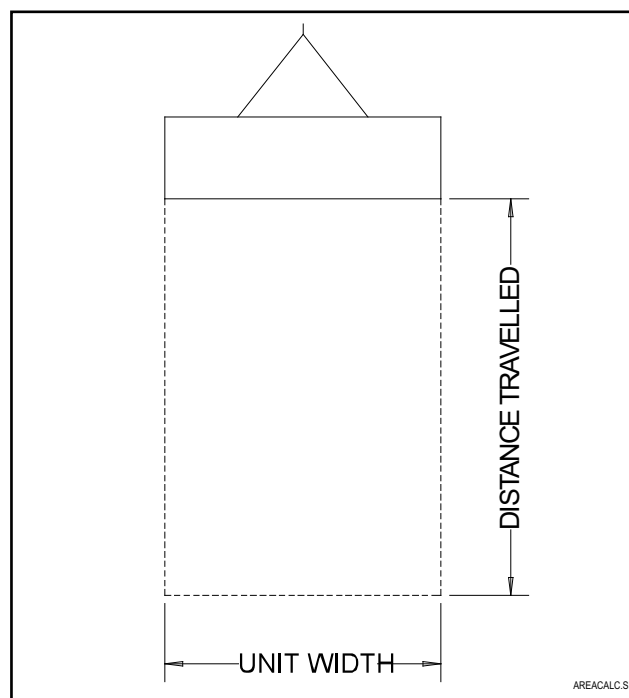

Figure 5.12 - Actual Area Calculation
1. Refer to *Figure 5.12*. Set a distance for the seeding unit to travel. By knowing how far the seeding implement has travelled, the exact area can be determined.